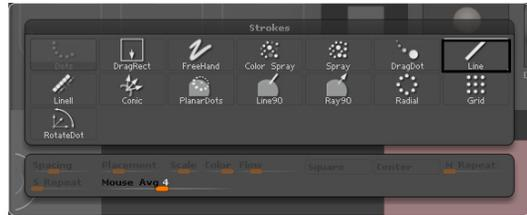

Figure 3-97 The **Line** stroke chosen in the flyout
- Choose the Current Stroke button from the left shelf; a flyout containing different types of strokes is displayed. Choose the **Line** stroke from this flyout, refer to Figure 3-97.